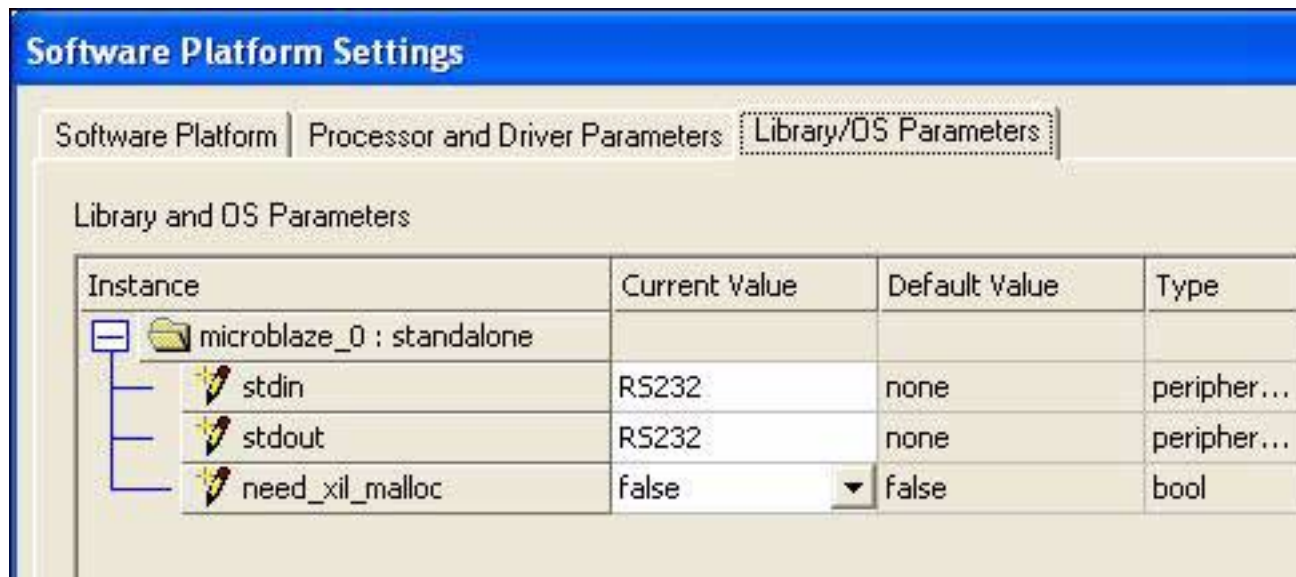

Figure 15: Library/OS Parameters
5. Configure the Library/OS Parameters tab as shown in figure 15. This allows the RS232 peripheral to be used for standard IO functions like print, printf, scanf, etc.